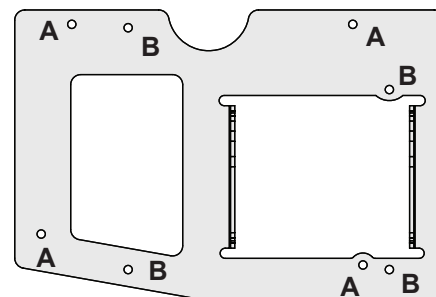

Figure 2
- If you are using the NEC M300W projector, use the mount holes labeled "A". If you are using the NEC M300WS projector, use the mount holes labeled "B". See Figure 2.
- 2 Insert one (1) M4 x 10mm pan Phillips screw or one (1) M4 x 10mm Lock-It™ security screw into each mounting point.